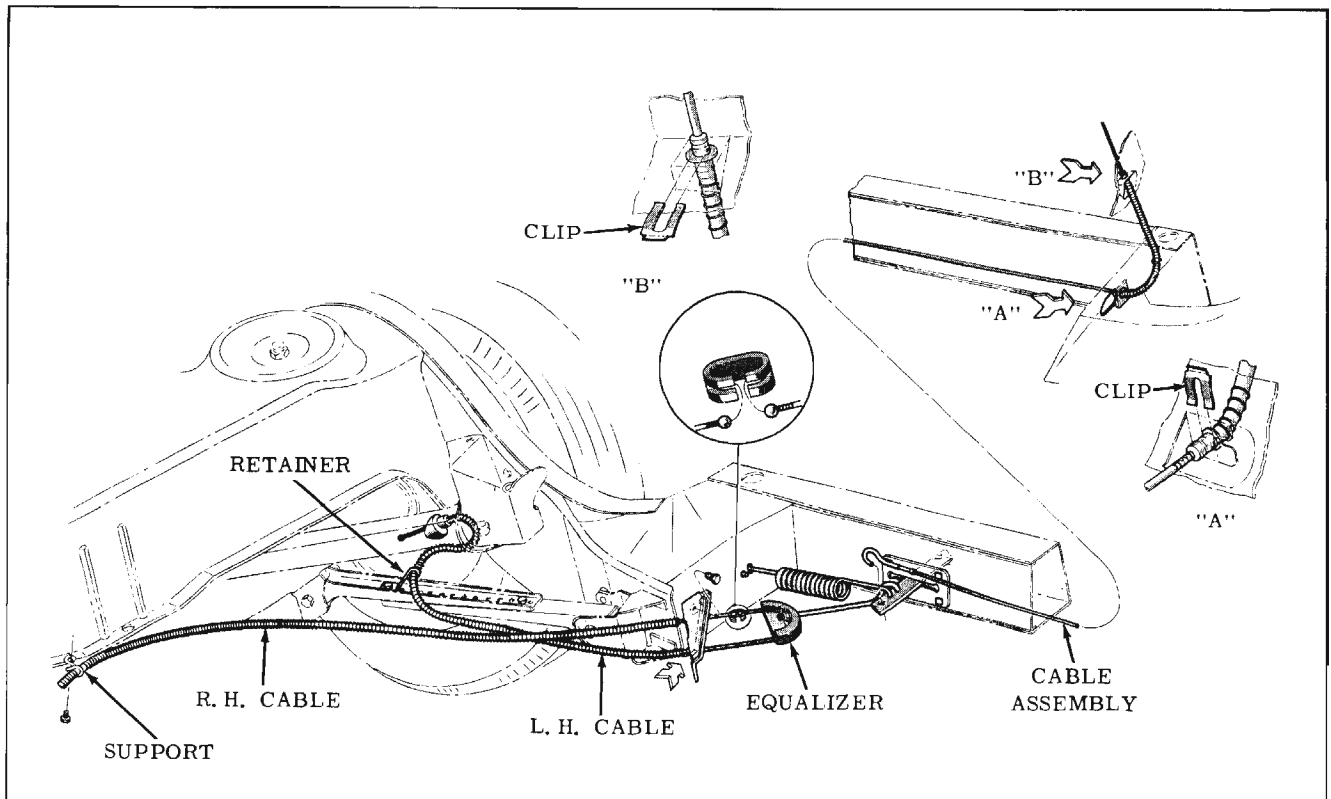

Fig. 7-5 Parking Brake Linkage
3. Adjust rear cables by first tightening equalizer adjusting nut until a heavy resistance is felt when rotating rear wheels forward, then loosen equalizer adjusting nut 10 full turns. (Fig. 7-5)